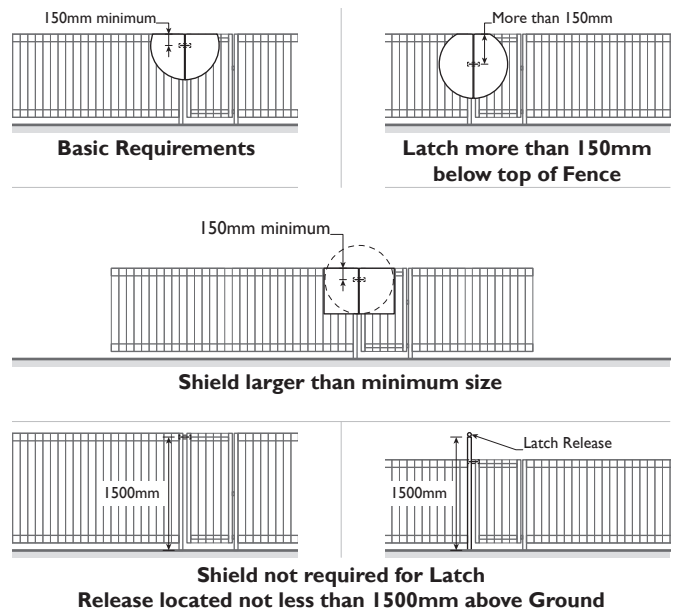

Figure 3
- › They are fitted with a self-latching device set at least 1500mm above ground level on either side or be located on the pool side in such a position that it will be necessary to reach over or through, at not less than 1200mm above ground level or with a 450mm minimum radius shield around the lock (Refer to Figure 3 for examples).